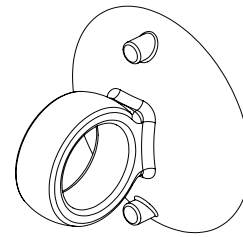

Figure 10: Suction Cup Removal Tool
2. Attach the iPort suction cup removal tool (figure 10) to the UPPER left or right corner of the iPad touch screen.